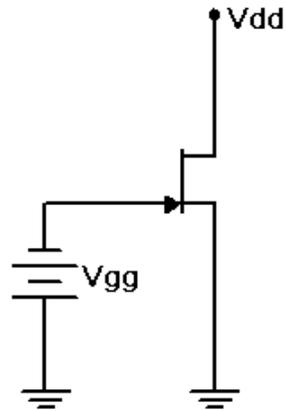

Figure 1
1. Consider the circuit of Figure 1 using  $V_{dd} = 15$  volts and  $V_{gg} = 0$  volts. With nothing else in the circuit, the resulting drain current should equal  $I_{DSS}$ . Similarly, if  $V_{gg}$  is gradually changed to a value negative enough to drop the drain current to zero,  $V_{gg}$  must be equal to  $V_{GS(OFF)}$ .
2. Build the circuit of Figure 1 using  $V_{dd} = 15$  volts and  $V_{gg} = 0$  volts. Insert an ammeter in the drain and record the resulting current in Table 1. Slowly increase the magnitude of  $V_{gg}$  (i.e., make it more negative) until the drain current drops to zero (as a practical point, try to get it under  $10 \mu\text{A}$ , or as low as the ammeter will allow). Record this voltage in Table 1. Repeat this process for the other two transistors. Be sure not to confuse the JFETs. Keep them in order.